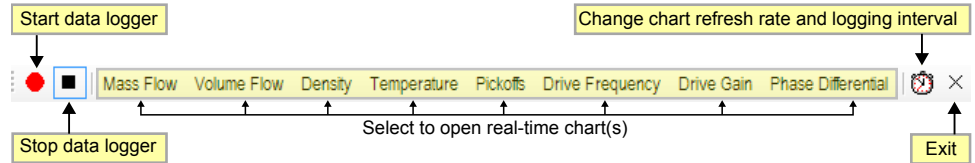
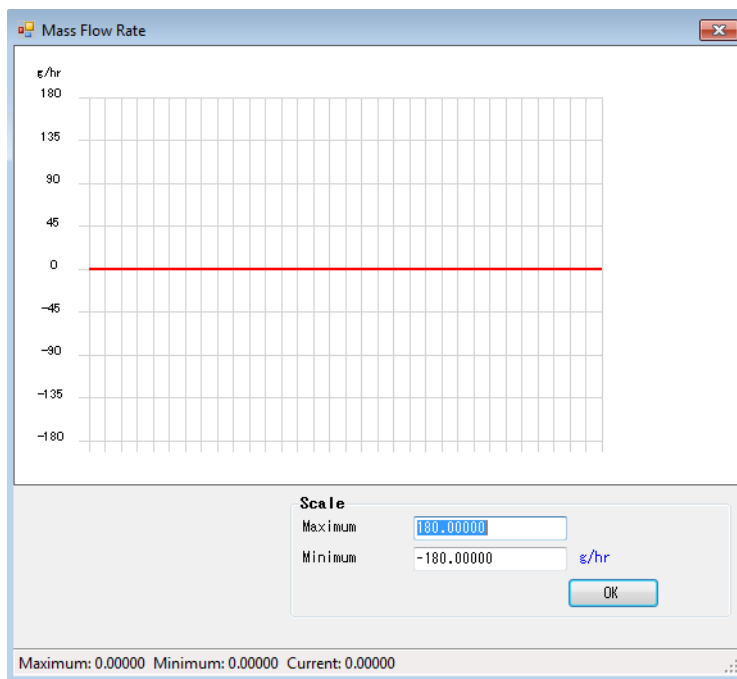

Figure 3.1—Charts and Data Logging toolbar
Figure 3.3—Mass Flow Rate chart
**Note** The *Charts and Data Logging* toolbar (Figure 3.1) will appear below the standard toolbar.
To view process variables and diagnostic values in the form of a chart, click the desired variable in the Charts and Data Logging toolbar. For example, click **Mass Flow** on the toolbar (Figure 3.1, page 18) to display mass flow data in a graph. The *Mass Flow Rate* chart (Figure 3.3) will appear. Charts for all other variables are selectable in the same manner.